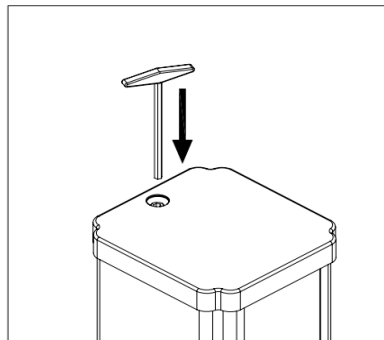

Figure 2
- Release the transport lock: To unlock the instrument there is a small opening provided at the top of the main cover cap. Remove the rubber grommet and insert 5mm Allen-key (Socket head cap screw key) and unlock the screw (M6). See Figure 2.